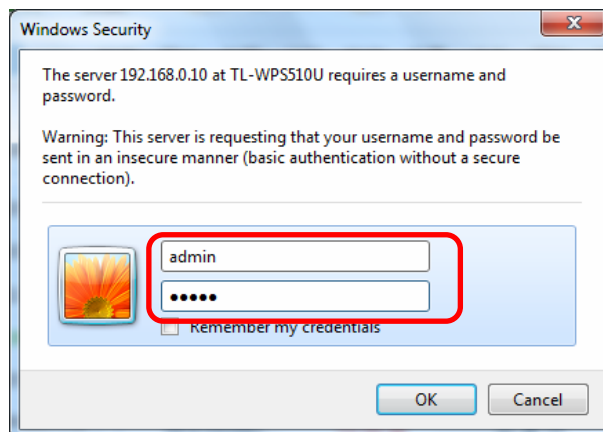

Figure 3-27
10. After a moment, a login window will appear, similar to the Figure 3-27. Enter **admin** in lower case letters for the User Name and **admin** for the Password. Then click the **OK** button or press the **Enter** key.